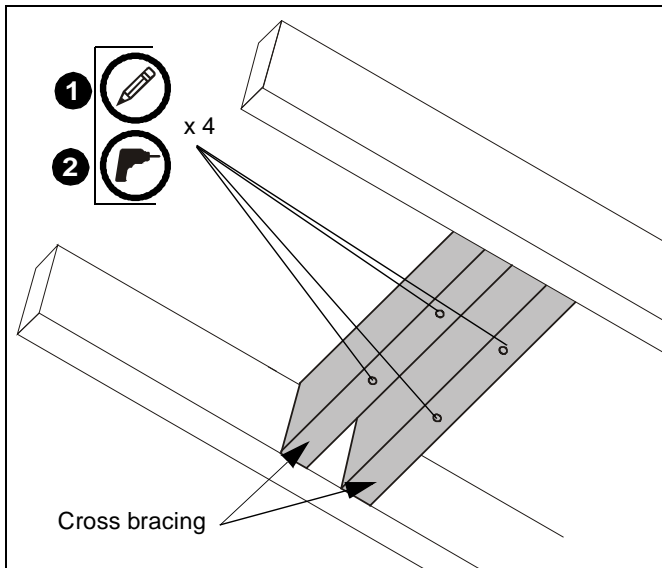

Figure 1
1. Using ceiling plate (A) as a template, mark locations of four pilot holes (See Figure 1). Ensure the marks are in the center of wood joists.
2. Drill 7/32" diameter pilot holes into wood stud cross bracing. (See Figure 1) Ensure pilot holes are straight.